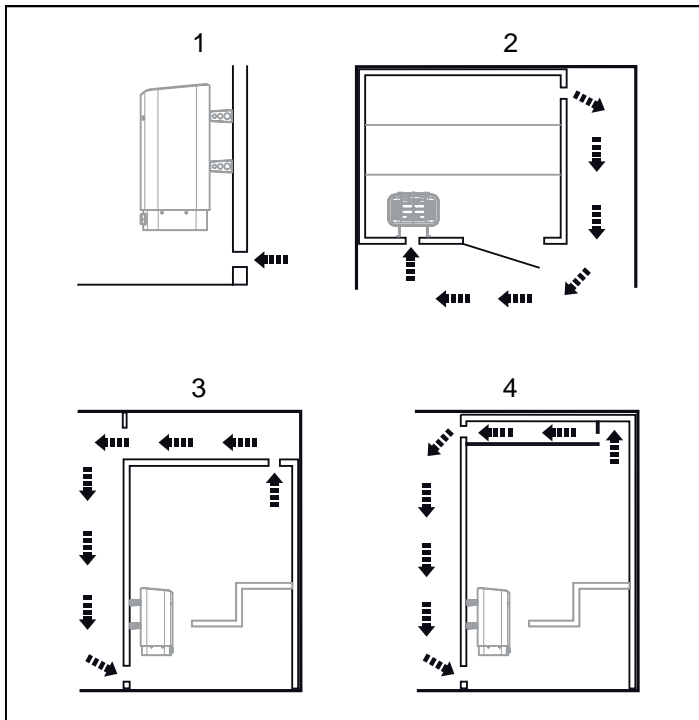

Figure 3: Positioning the inlet and outlet vents
In a sauna, the air should be changed about 6 times an hour. This can be achieved by making a vent opening (fresh air inlet) in the sauna wall directly below the heater. The air outlet must be lower than the upper benches, as far as possible from the heater and about two feet higher than the fresh air inlet vent, See Figure 3.
- at the maximum possible distance from the inlet vent, e.g. diagonally (see Figure 3, Page 2)
- high on the wall or in the ceiling (see Figure 3, Page 2).